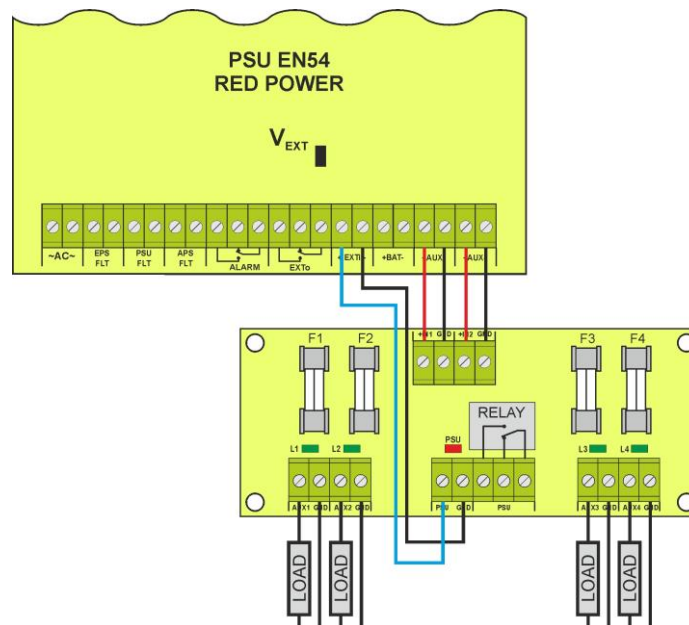

Fig. 21. The connection of fuse module.
- switching PSU relay output into voltage free status (contacts as shown in the Fig. 21).